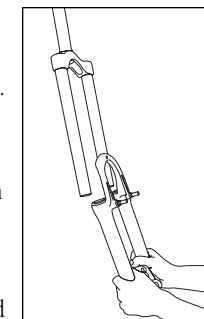

Fig. 6
7. Slide off one-piece lower tube assembly (see Fig. 6). Remove fork boots.